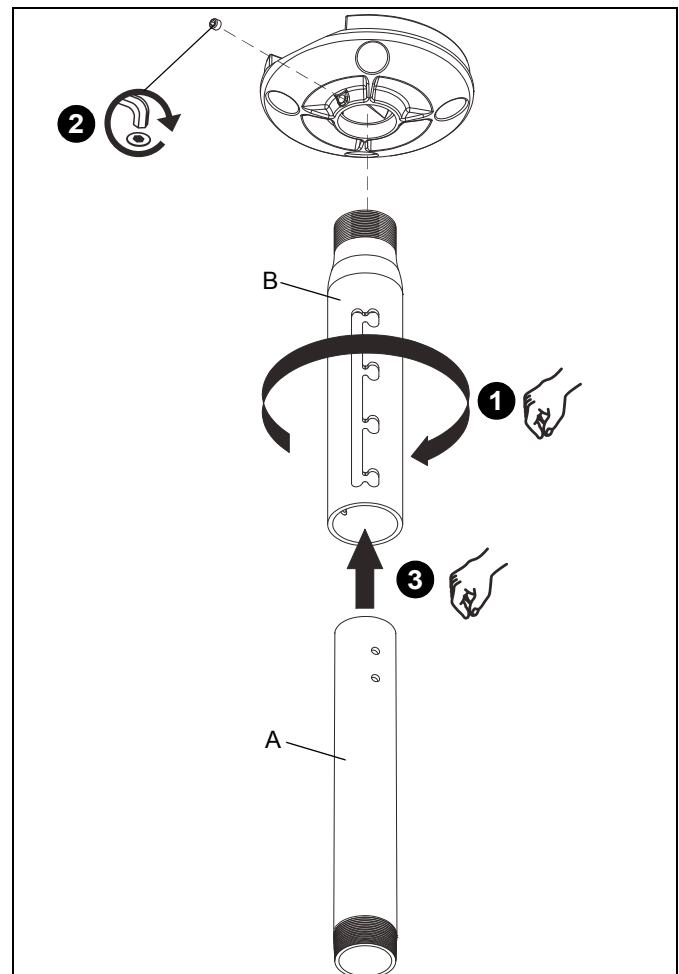

Figure 2
1. Install 1-1/2" NPT threaded column (A or B, as applicable) into plate/adapter (See Figure 2). Securely tighten column.
2. Secure column (A or B, as applicable) by tightening set screw in plate/adapter (See Figure 2).
3. Install mating column (A or B, as applicable) (See Figure 2).